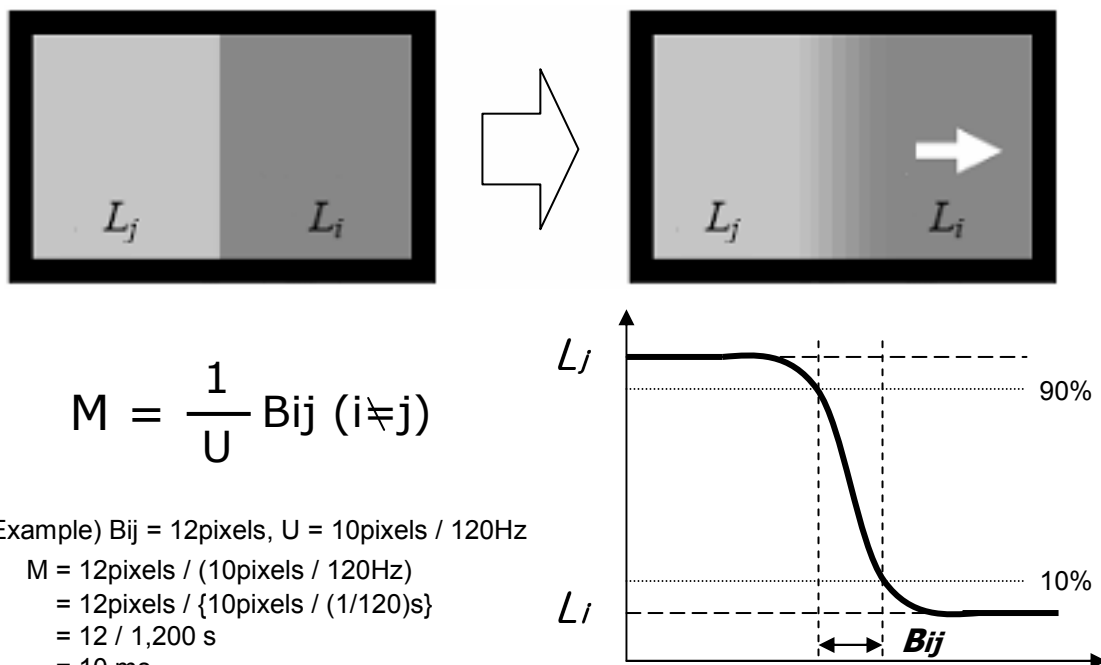

FIG. 4 MPRT
5. MPRT is defined as 10% to 90% blur-edge width Bij(pixels) and scroll speed U(pixels/frame)at the moving picture. For more information, see FIG 4